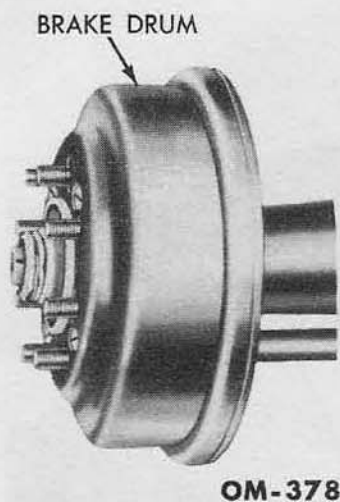

Fig. 27—Wheel Removed to Expose Brake Assembly
a. Removal. Jack up the rear end of the tractor, and remove the rear wheels. Remove the four screws from the brake drum, and slide the drum off the shaft (fig. 27).